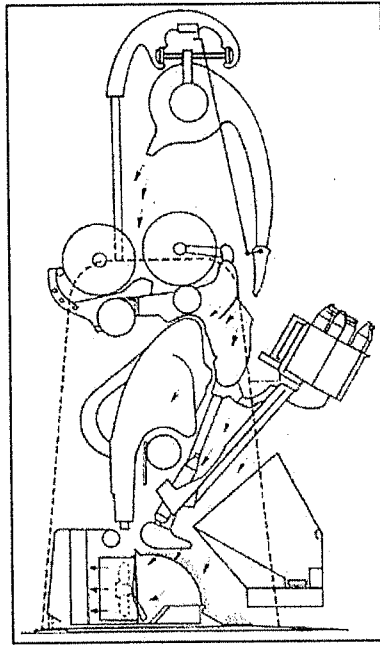

Figure 01.
- b) Figure 01 shows side elevation of an automatic winding machine (Autoconer). Explain the step-by-step working procedure of the machine. Discuss how each operational stage is automated to improve yarn quality, and production efficiency. (08 marks)